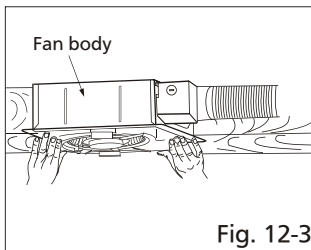

Fig. 12-3
- Insert the blower into the fan body. (Fig. 12-3)